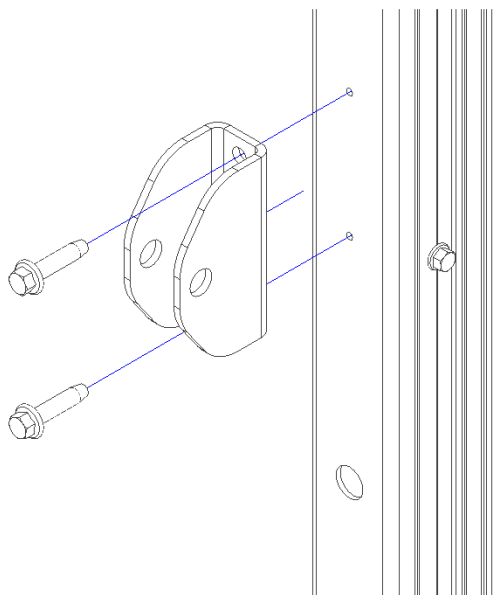

fig.4
STEP 4. Fix the seal arm mountings with 6.3x25 self-drilling screws to the side profiles as indicated (Fig.4).